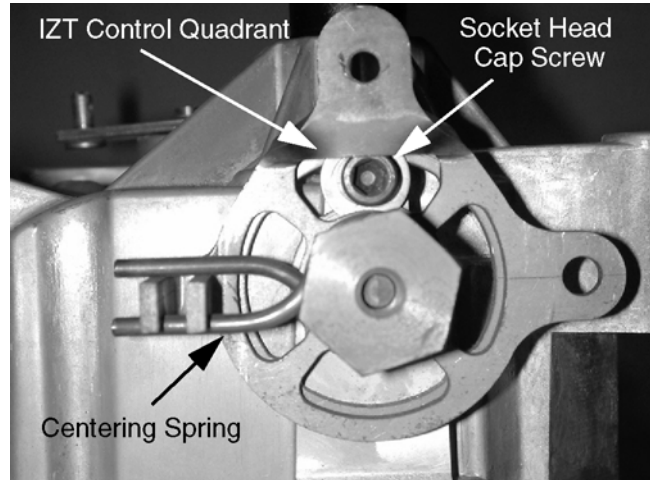

Figure 11-31
8. If either wheel rotates forward or backward, the control lever quadrant on its' IZT must be adjusted using a 1/4" allen wrench. See Figure 11-31.